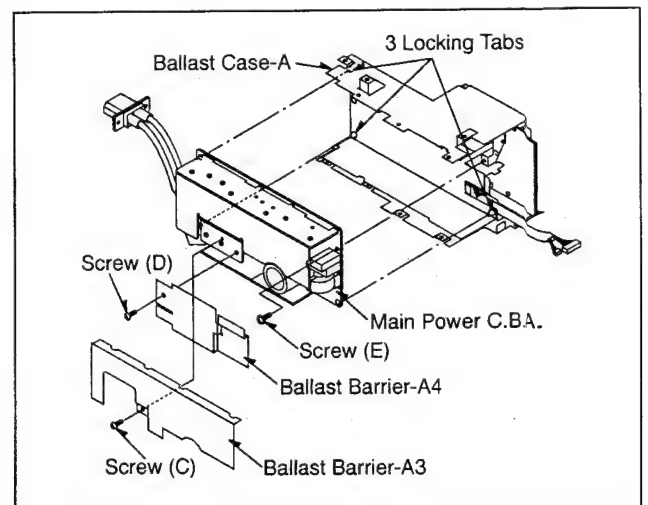

Fig. P7
2. Remove a screw (C) to remove the Ballast Barrier-A3 as shown in Fig. P7.
3. Remove a screw (D) to remove the Ballast Barrier-A4.
4. After remove a screw (E), release 3 Locking Tabs to remove the Main Power C.B.A. as shown in Fig. P7.